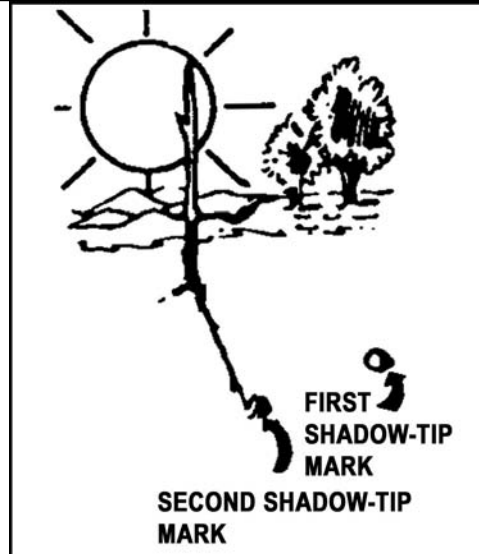

Figure 071-329-1018-2. Second shadow-tip mark
- c. Draw a straight line through the two marks you made on the shadow tips. This line is an East-West line (figure 071-329-1018-3).